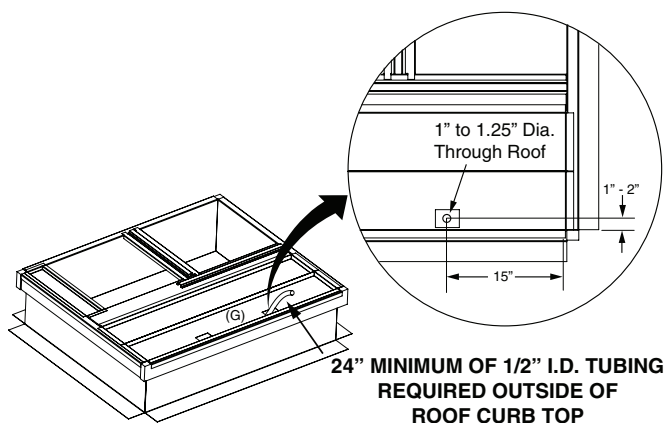
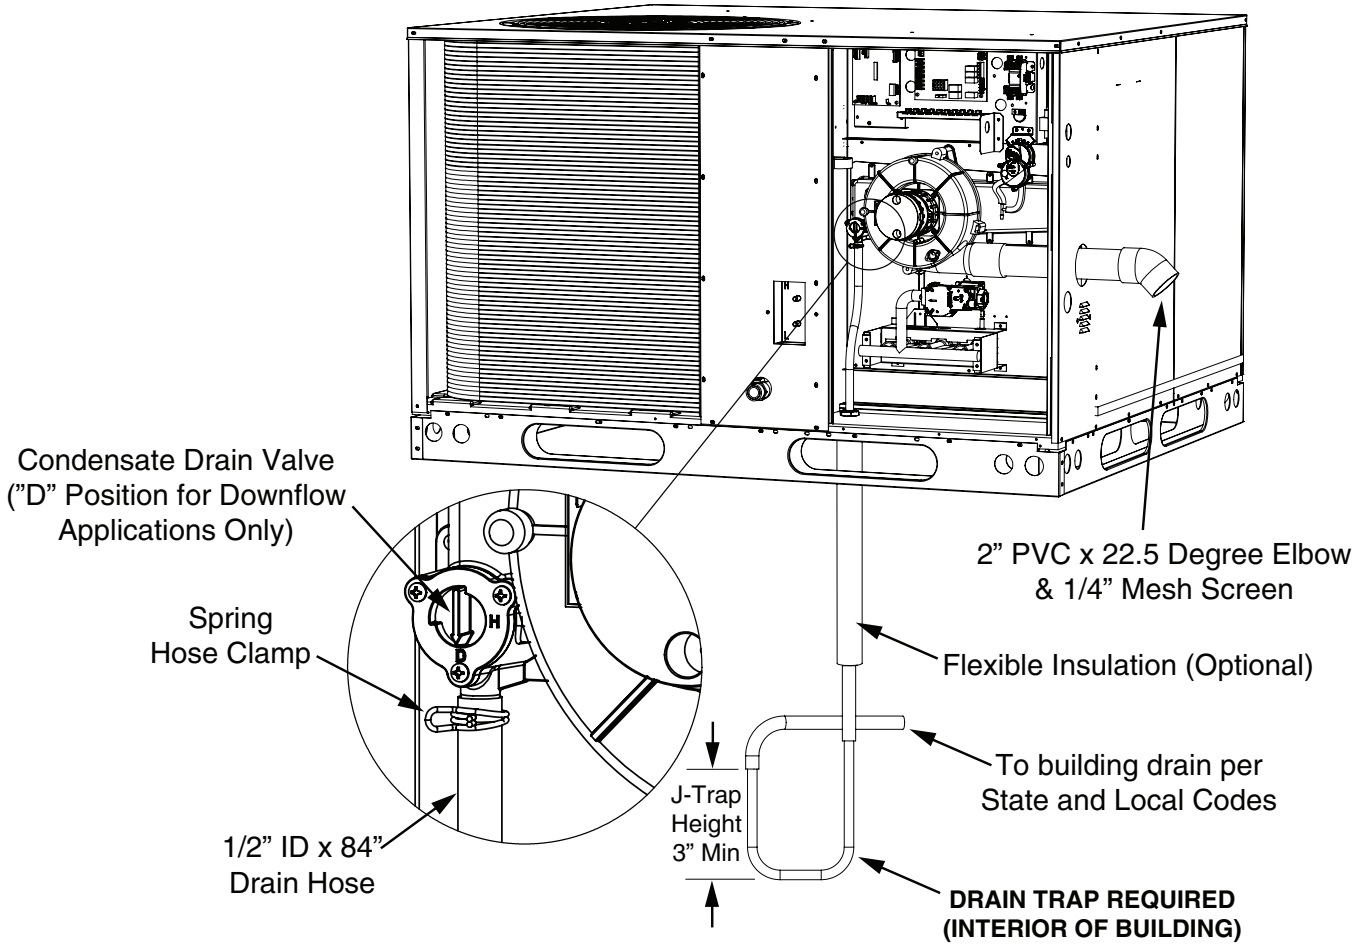

Figure 23. Roof Curb for 2 - 5 Ton Units
Figure 24. Condensate Disposal
Vertical pit should be approximately 12"-14" in diameter (or larger) for installation of the rock base and vertical piping system to allow for proper drainage with a depth of 4"-6" below the regional frost line if possible. See Figure 23 \(page 46\).
8. Glue or use two 1/2" long screws (field supplied) to secure the 2" PVC Tee to the unit horizontal vent pipe. See Joint A in Figure 23. **NOTE:** Fastening the Tee to the horizontal vent pipe with 1/2" screws will make disassembly easier for future cleaning or inspection of the drain / vent system.
3. Measure and cut a length of 2" PVC that extends vertically from the bottom of the 3/4" drain fitting at the bottom of the tee to the 2" elbow/reducer assembly resting on the rock base as shown in Figure 24 \(page 48\).
11. Glue or use two 1/2" long screws (field supplied) to secure the 2" PVC Tee to the unit horizontal vent pipe. See Joint A in Figure 24. **NOTE:** Fastening the Tee to the horizontal vent pipe with 1/2" screws will make disassembly easier for future cleaning or inspection of the drain / vent system.
5. Cement or mechanically fasten the assembly (with 1/2" long screws) into the top of the tee. Verify the outlet is perpendicular to the unit. See Joint B in Figure 23 and Figure 24.
- Nortek Condensate Drain & Vent Kit # 922485 is set up for installing the HX condensate drain line straight down through the roof. It is recommended to drill a 1.00"-1.25" diameter hole through the roof below the rectangular opening located in outer close off curb panel (G), approximately 15" in from the short side of curb and 1"-2" in from the long side of curb. See Figure 23.
- If drilling a hole is not an option, routing the condensate drain hose over to the duct passage opening with enough slope is acceptable as long as drain line is secured to curb and duct, ensuring no kinks or traps can form between the collector box drain or interior of the building. Leave a minimum of 24" drain line extending out the top of roof curb front close off panel (G) for passage through unit bottom and connection to unit drain when unit is being set. See Figure 23. Seal roof penetration as required.
Before hoisting and setting the unit in place, the short piece of factory installed drain line located next to the unit burner section must be removed from the HX collector box drain valve to allow for passage of the condensate drain line installed with the roof curb. The condensate drain valve is located in the bottom left corner of the heat exchanger collector box. See Figure 24 \(page 48\). Remove the drain line and rubber grommet located in the unit bottom pan, setting the rubber grommet aside for later use.
Downflow applications require the factory set position of the condensate drain valve be changed from the horizontal (H) to downflow (D) position. The condensate drain valve is located in the bottom left corner of the heat exchanger collector box to the left of the inducer motor. See Figure 24. Carefully rotate the valve 90 degrees in a clockwise direction until the arrow is pointing vertically downward.
- For Installations where there is limited clearance for the J-Trap (such as an attic where it may be installed between ceiling joists), either side of the J-Trap can be shortened to a minimum of 3 Inches. See Figure 24 \(page 48\).